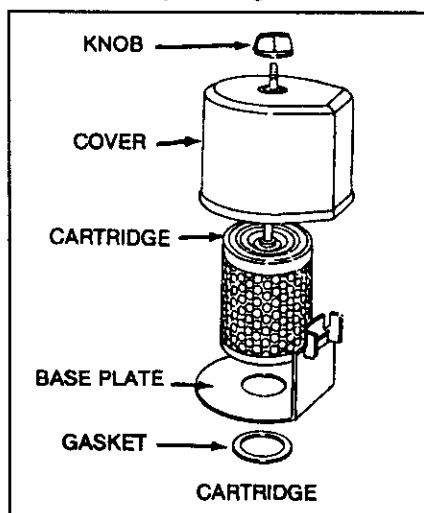

FIGURE 17
4. Install cartridge, then cover and screw knob securely. See Figure 17.